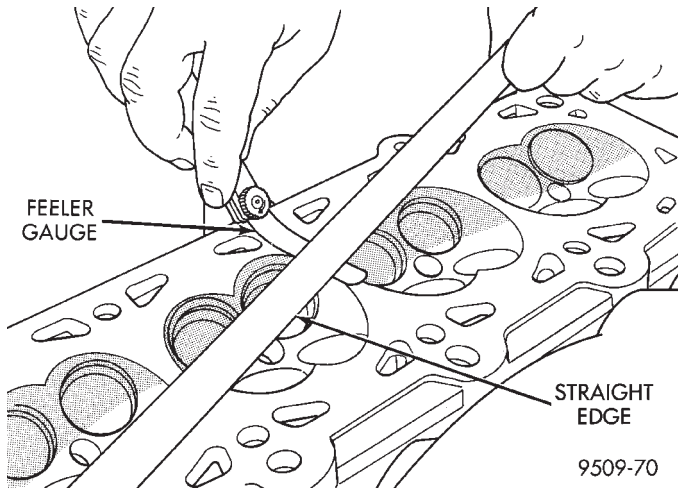

Fig. 96 Checking Cylinder Head Flatness
- (1) Cylinder head must be flat within 0.1 mm (0.004 inch) (Fig. 96).
- (2) Inspect camshaft bearing journals for scoring.